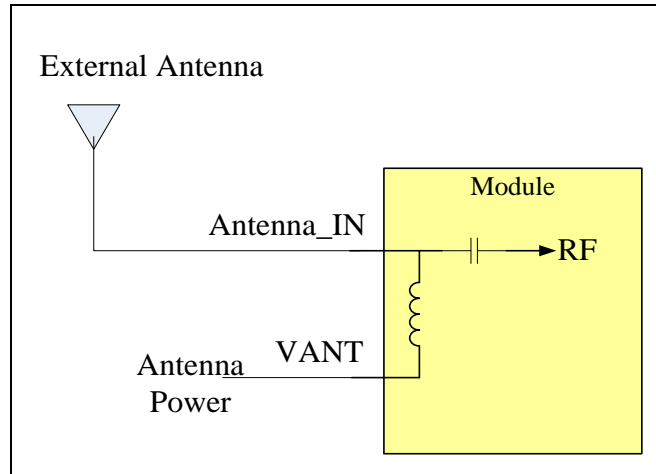

Figure Mode 1 (Internal chock coil)
- Mode1 (ex. **SL3C, Gmm-u1315**), the power supply for the External Antenna needs to be externally feed into pin VANT of the module and connect to Antenna\_IN via a internal chock coil. See Figure Mode 1.